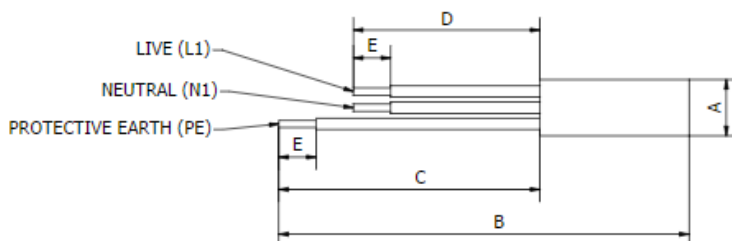
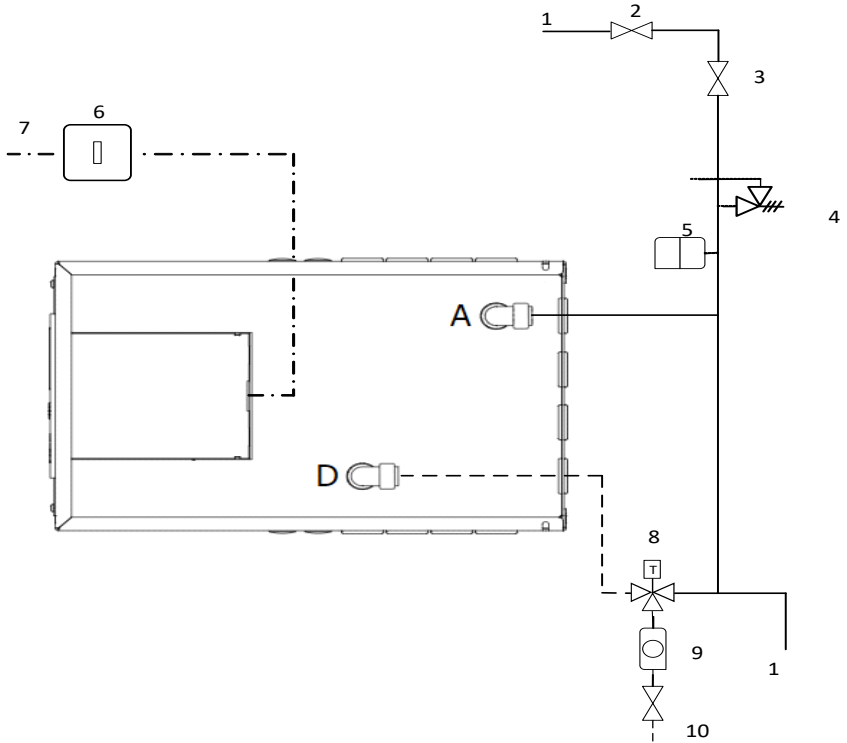

Figure 10: Wire length preparation diagram
Figure 12.1: Example wiring option 1 schematic (see Figure 3 for piping and electrical options available)
- The mains power cable to the Sunamp Controller should be a minimum of 2.5mm2, 3 core H05 VV-F sheathed cable, to BS 6500. This cable must be prepared according to Figure 10 (below), where the Green/ Yellow (Protective Earth) wire is 15mm longer than the Brown (Live) and Blue (Neutral) wires.
- Run and connect 3 Core mains power supply cable (16A minimum, minimum 2.5mm2 CSA) from the Double-pole isolating switch to the Heat Battery controller (Figures 12.1 and 12.2).
- Prepare, if necessary (Figure 10) and wire the mains power cable in the following terminals (Figure 12.1):